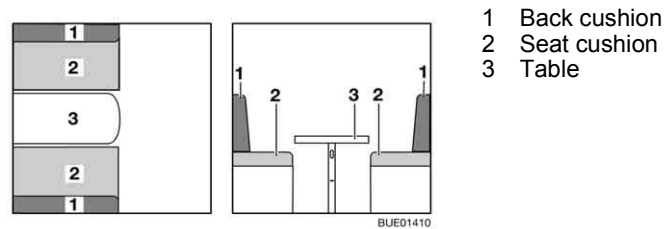

Fig. 98 Prior to conversion
- Convert the table (Fig. 98,3) to a bed foundation (see section 6.11).
- Remove the back cushions (Fig. 98,1) and place one of them on the table.